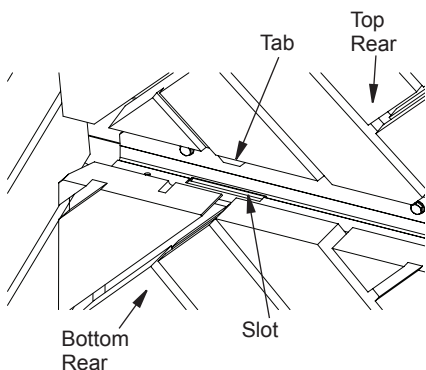

**Figure 22 - Installing Bottom Rear Wall**
4. Install the bottom rear firebrick wall. Place the wall face side down on the hearth with the bottom of the wall toward the rear of the firebox and the top toward the front of the fireplace. Tilt the wall up toward the back of the firebox. Secure bracket at top of the firebrick wall to the rear firebox surround (Figure 22).